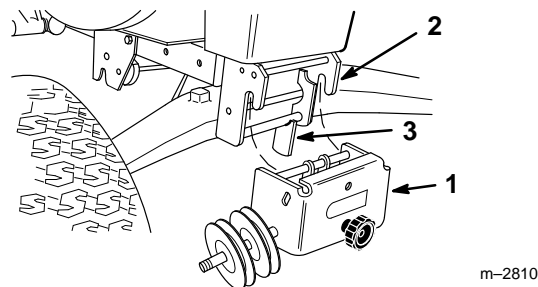

Figure 6
14. Place pulley assembly into front hitch and lock by moving latch rearward (Fig. 6).